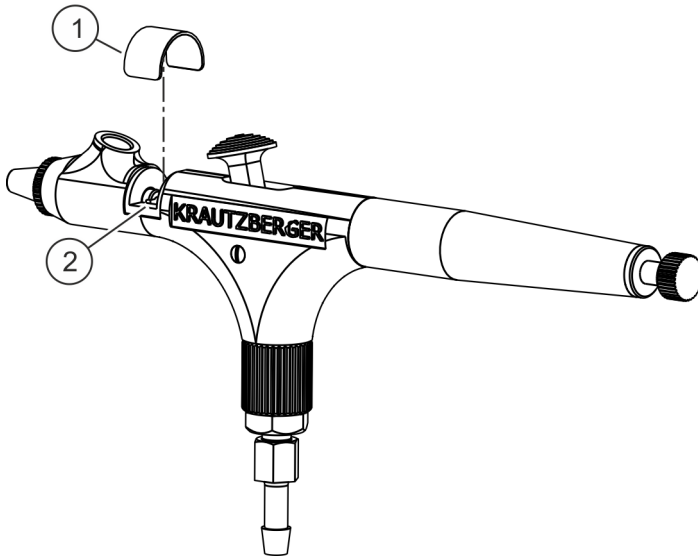

Fig. 7: Retighten the sealing screw
1. ➔ Remove the cover clamp (Fig. 7/1) from the main element.
2. ➔ Lightly retighten sealing screw (Fig. 7/2) with a suitable screw driver.
3. ➔ Place the cover clamp (Fig. 7/1) onto the main element.